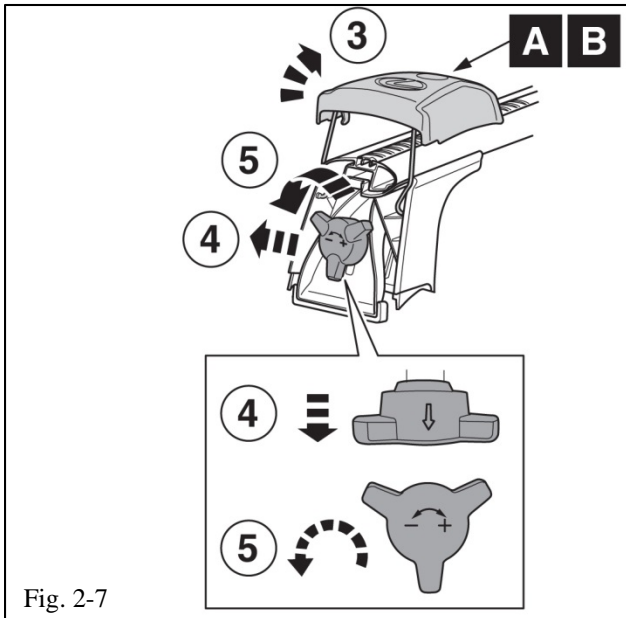

Fig. 2-7
- (h) Swing the end covers up on top of the cross bar (Fig. 2-7).
- (i) Pull the adjustment knobs out and turn counterclockwise to loosen the assembly enough to allow for installation (Fig. 2-7).